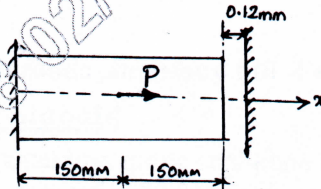

Fig Q4(b)
- b. A bar having uniform cross sectional area of 300mm^2 is subjected to a load $P = 600\text{kN}$ as shown in Fig Q4(b). Determine the displacement field. Consider the bar to be made of two elements. Take $E = 200\text{GPa}$. (08 Marks)